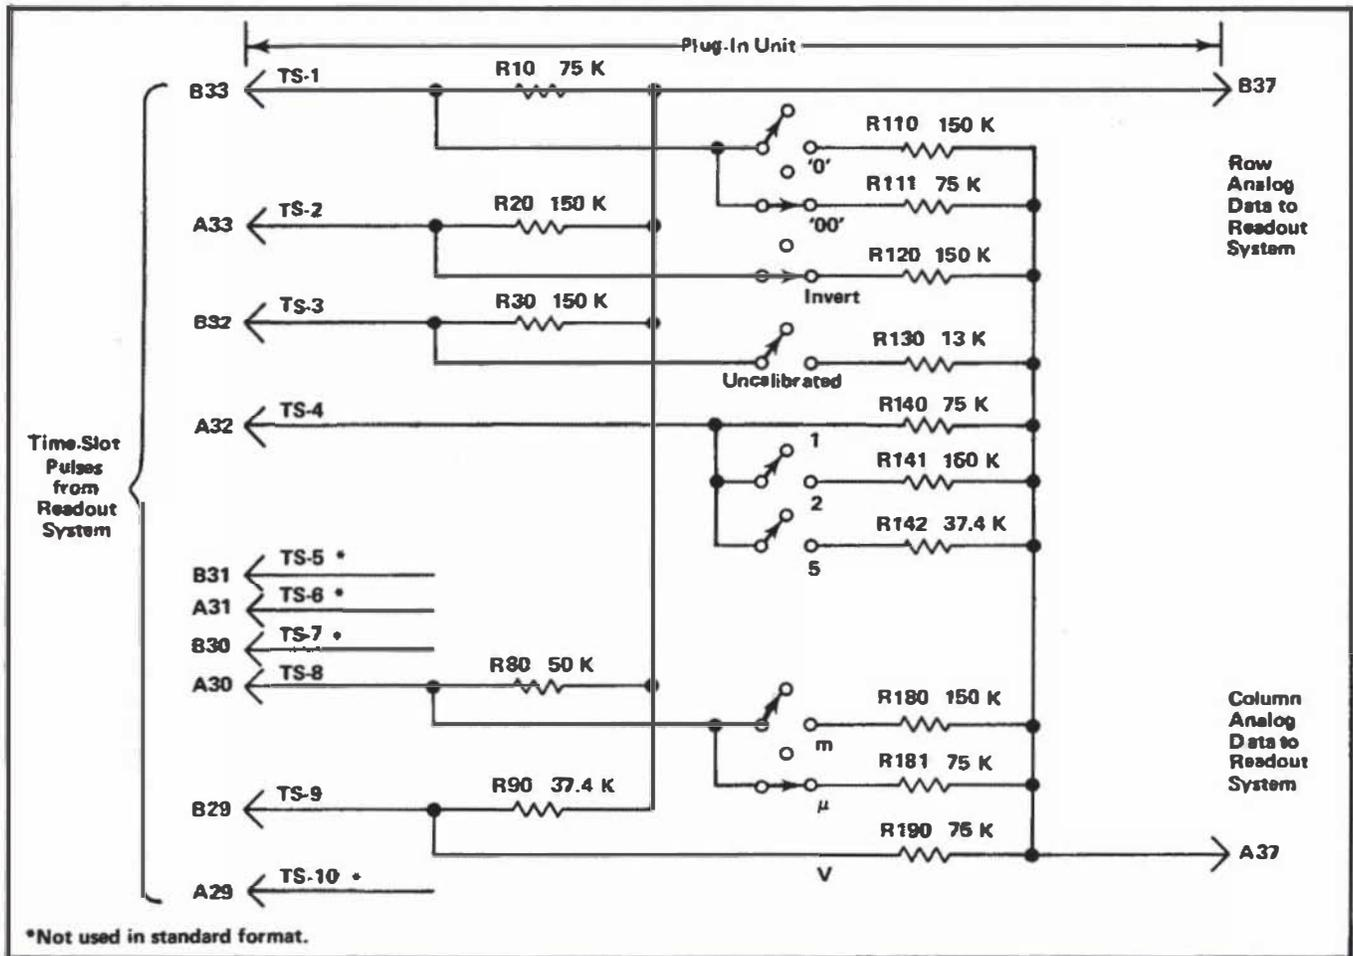

Fig.4-32. Typical encoding scheme for voltage-sensing amplifier plug-in unit. Coding shown for deflection factor of 100 micravolts.
Data is conveyed from the plug-in units to the Readout System in the form of an analog code having up to 11 current levels (from zero to one milliampere in 100 microampere steps). The characters which can be selected by the encoded data are shown on the Character Selection Matrix (see Fig. 4-25). Each character requires two currents to define it; these currents are identified as the column current and the row current which correspond to the column and row of the matrix. The column and row data is encoded by resistive programming in the plug-in units. Fig. 4-32 shows a typical encoding scheme for a voltage-sensing amplifier plug-in unit. Notice that the 10 time-slot (TS) pulses produced by the Time-Slot Counter stage are connected to the plug-in unit. However, time-slots 5, 6, 7, and 10 are not used by the plug-in unit to encode data when using the Standard Readout Format (see Table 4-2 for Standard Readout Format). The amplitude of the time-slot pulses is exactly -15 volts as determined by the Timer stage. Therefore, the resultant output current from the plug-in units can be accurately controlled by the programming resistors in the plug-in units.
For example, in Fig. 4-32, resistors R10 through R90 control the row analog data which is connected back to the Readout System. These resistors are of fixed value and define the format in which the information will be presented by the Readout System. Fig. 4-33A shows an idealized output current waveform of row analog data which results from the 10 time-slot pulses. Each of the steps of current shown in these waveforms corresponds to 100 microamperes of current. The row numbers on the left-hand side of the waveform correspond to the rows in the Character Selection Matrix shown in Fig. 4-35. The row analog data is connected back to the Readout System via terminal B37 of the plug-in interface.
The Column analog data is defined by resistors R110 through R190. The program resistors are connected to the time-slot lines by switch closures to encode the desired data. The data as encoded by the circuit shown in Fig. 4-32 indicates a 100 microvolt sensitivity with the display inverted and calibrated vertical deflection factors. This results in the idealized output current waveforms shown in Fig. 4-33B at the column analog data output, terminal A37 of the plug-in interface. Resistor R111, connected between time-slot 1 and the column analog data output, encodes two units of current during time-slot 1. Referring to the
connectors of vertical plug-in units. A special coding ring around the input connector of the plug-in unit senses the attenuation ratio of the probe (with readout-coded probes only). The probe contains a resistor which results in additional column current. For example, if a 10X attenuator probe is connected to a plug-in with the coding for 100 microvolts as shown in Fig. 4-32, an additional unit of current is added to the column analog data during time-slot 1. Since two units of current were encoded by R 111 (see Fig. 4-32), this additional current results in a total of three units of column analog current during this time-slot. Referring to the Character Selection Matrix, three units of column current along with the two units of row current encoded by R10 indicates that the prefix should be reduced. Since this instruction occurs in the same time-slot which previously indicated that two zeros should be added to the display and only one instruction can be encoded during a time-slot, the zeros do not appear in the display. The CRT readout will now be changed to 1 mV (readout) program produced by plug-in same as for previous example.